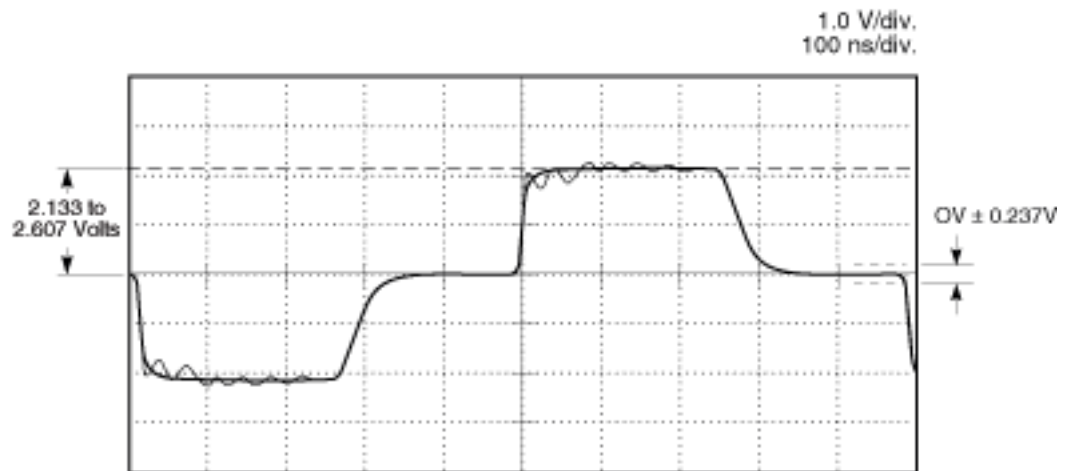
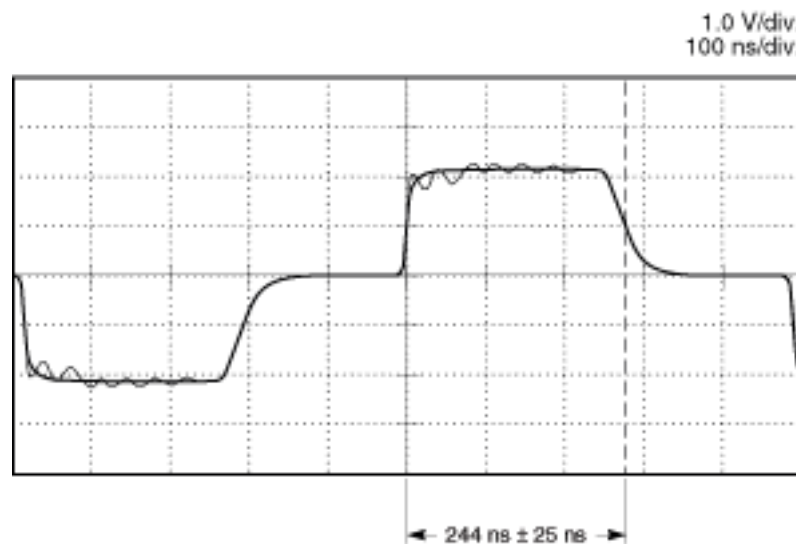

Figure E2-2. 2048 kbps Voltage Peak Test
Figure E2-3. 2048 kbps Pulse Width Test
2. Using a 75 Ω BNC cable, connect an oscilloscope to Output A and verify that an appropriate signal is present as shown in Figure E2-2 and Figure E2-3.
Use the 75 Ω feed-thru and the 75 Ω cable. Verify that the amplitude peak and pulse width of each output checked complies with the waveform shown in Figure E2-2 and Figure E2-3.